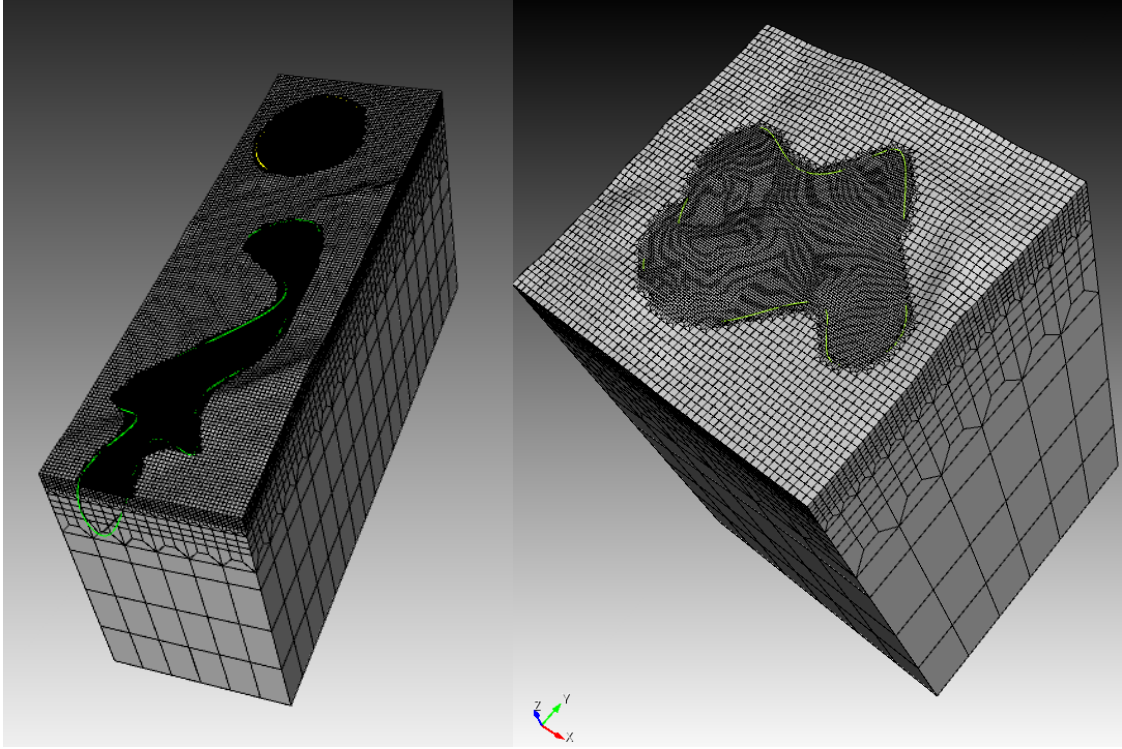

Figure 2: An alluvial basin example.
- Collecting a single free mesh cubitfile and refine the hex inside some curves (ex. alluvial basin, Figure 2)